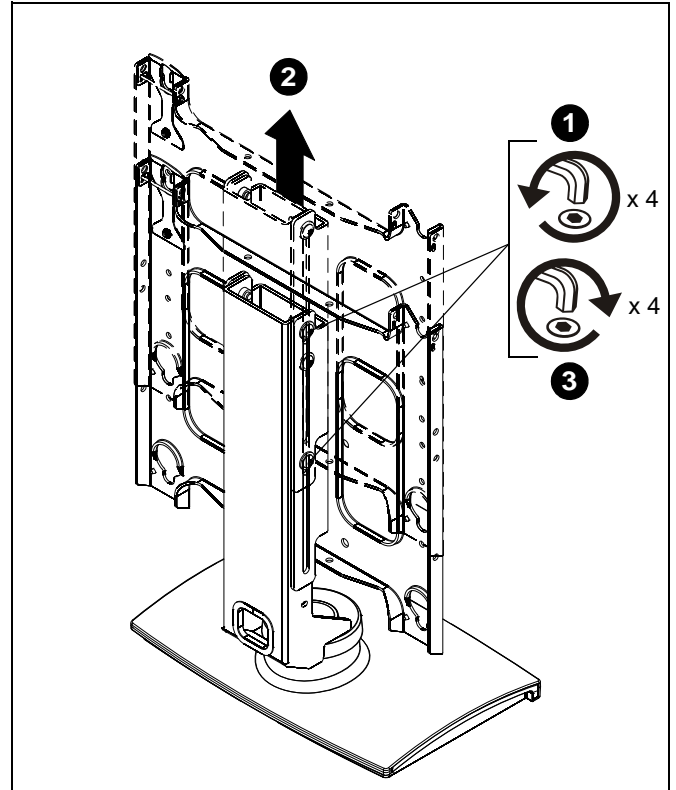

Figure 2
1. Loosen the four height adjustment screws and raise the slide with faceplate to its maximum height. (See Figure 2)
3. Secure slide in place by tightening the four height adjustment screws. (See Figure 2)
6. Tighten four height adjustment screws. (See Figure 2)
1. Hold display in place and loosen the four height adjustment screws. (See Figure 2)
3. Tighten the four height adjustment screws. (See Figure 2)